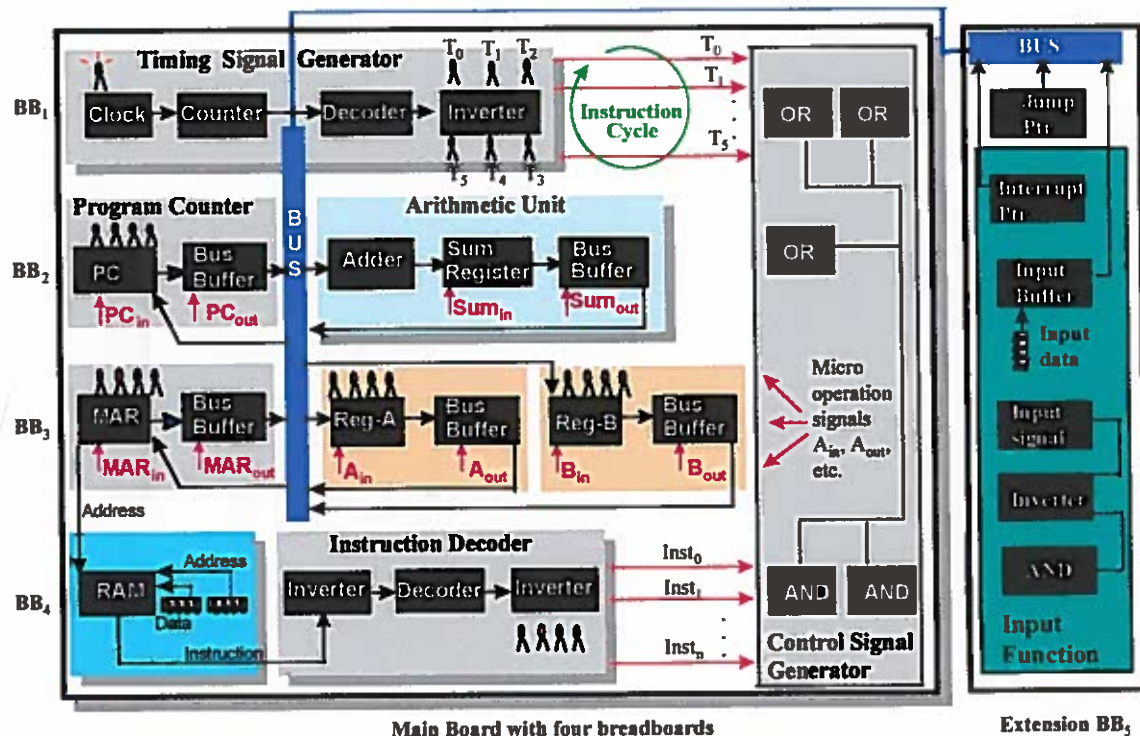
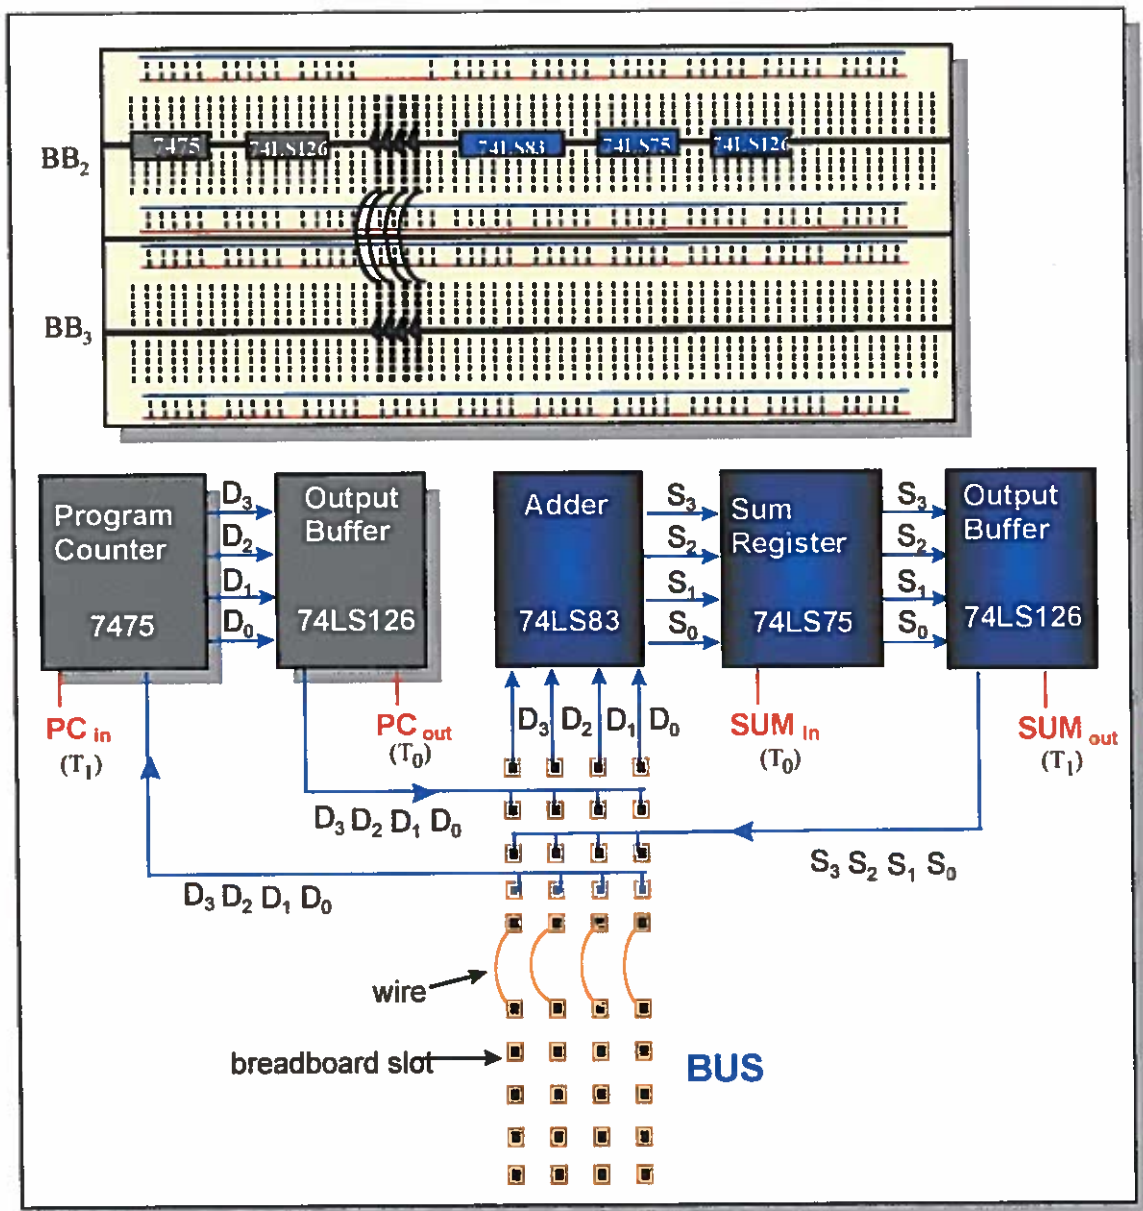

Figure 7. Block diagram of the target computer.
Figure 13. The Program Counter and the Arithmetic Unit.
Figure 7 presents the block diagram of the target computer. Each black box in the figure is a TTL chip. The main board on the left implements the CPU and it also contains the RAM. The extension breadboard on the right implements the Input Function (e.g., input interrupt processing). The implementation of the latter will be discussed in Section 7. This section discusses the implementation of the Main Board.
In Figure 7, the open-ended arrows indicate control (i.e. micro-operation) signals. These are active HIGH (i.e., +5V) signals and they control the flow of data. For example Sum_{in} signal allows the
An overview of the projects for building your computer is presented below. This presentation also includes how the control signals shown in Figure 7 function.
The term "BUS" is a computer architecture term referring to a number of parallel conductors used by the CPU components for exchanging data. The term BUS implies that it is a shared medium. The BUS in Figure 7 consists of four parallel conductors used by several chips for exchanging data (i.e., a chip puts data on the BUS, another one takes it from the BUS). You will construct the BUS by interconnecting the internal conductor strips of the breadboards via wires.
Before execution, you enter your program into RAM manually using the data and address DIP switches (see Figure 7). As the adjacent illustration shows, each 4-bit memory location for storing an instruction has a 4-bit address. These addresses range from 0000 to 1111. To write into RAM, you specify the memory location via the address switch, specify the instruction via the data switch, and manually send to RAM a write signal. The four pins of the data switch connects to RAM's data input pins and the four pins of the address switch connect to RAM's address pins
If you adhere to the chip layout shown in Figure 7, you will not run out of breadboard space. Also, plan ahead as you insert your chips horizontally: start from the very left end of a breadboard, and, in general, do not leave more than two slots between the two adjacent chips.
- Obviously, you can choose a chip layout different than that in Figure 7.
Top of Figure 13 illustrates the breadboard chip layout for the Program Counter and the Arithmetic Unit (which only performs the “increment” function). The block diagram below the breadboard shows the details. Although the PC and the Arithmetic Unit are functionally independent of each other, both are discussed in this section because the PC uses the Arithmetic Unit for incrementing its contents. This discussion also helps understand how the BUS is used.
First let's construct the BUS. The BUS consists of four parallel conductor lines vertically traversing breadboards BB2 and BB3. You construct the BUS by interconnecting the conductor strips on both sides of each breadboard's central groove, and by interconnecting the so formed bus segments across the two breadboards (see the upper part of Figure 13).
The PC and the Arithmetic Unit exchange data through the BUS. Figure 13 shows the required data-flow connections on BB2. Although utilized in the Figure 13, do not yet utilize the top-most slot row of the bus. As Figure 7 shows these slots will be used for extending the bus (through BB1 if you will) to BB5.